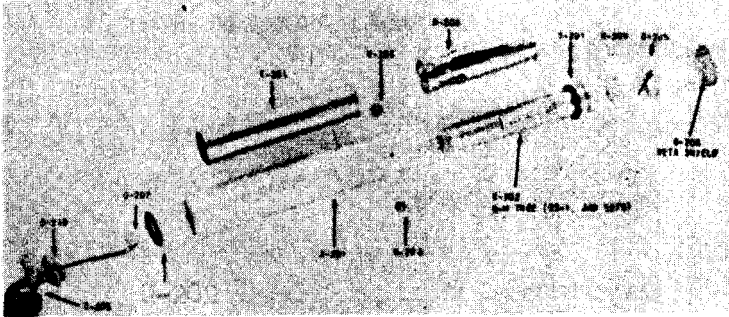

Figure 7-6. Radiac Detector DT-106/PDR-27G, Exploded View
- a. REMOVAL OF V102. (See figure 7-6.)
b. REPLACEMENT OF V102. (See figure 7-6.)